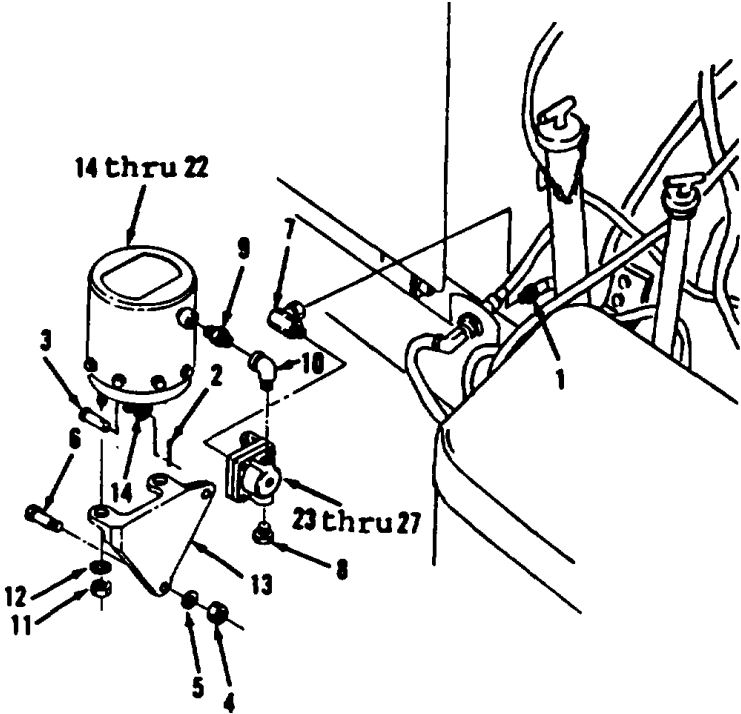

Figure 6-3.
1. Disconnect hose assembly (1) from elbow (7, Figure 6-3).
2. Connect shop air line to elbow (7) and apply pressure to relieve release valve pressure.
3. Remove cotter pin (2) from pin (3).
4. Remove pin (3) from rod end (14).
5. Remove shop air line from elbow (7).
6. Remove two nuts (4), lockwashers (5) and bolts (6) from bracket (13).
7. Remove elbow (7) and plug (8) from release valve assembly.